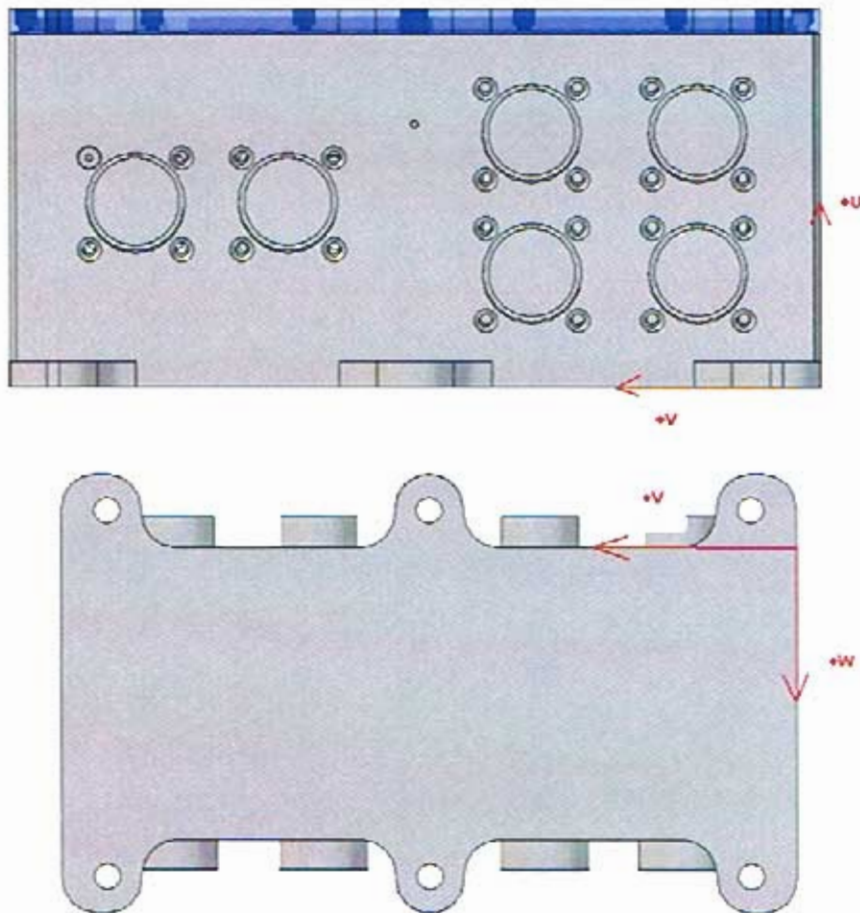

Figure 3. HCB Box Coordinates
3. Slowly place the HCB assembly onto the load cells (see figure 3). Set the unit down on the load cells in any orientation, keeping the geometric center of the box within the triangle defined by the 3 load cells.